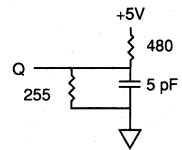

Fig. 2 OUTPUT LOAD EQUIVALENT
- t_{HZCE}, t_{HZWE} and t_{HZOE} are specified with C_L = 5pF as in Fig. 2. Transition is measured ± 500mV from steady state voltage.